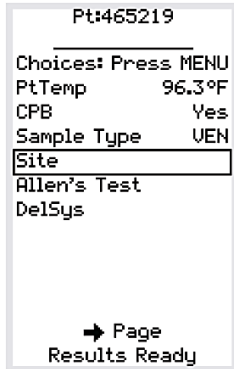
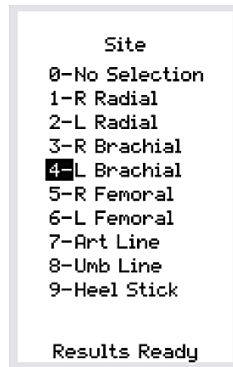

**Figure 1**
**Figure 2**
**Figure 1** shows the analyzer Chart Page and **Figure 2** shows an example of a Chart Page customized for STATNotes to include one Data Entry item (PtTemp) and five Selection List items (CPB, Sample Type, Site, Allen’s Test, and DelSys).